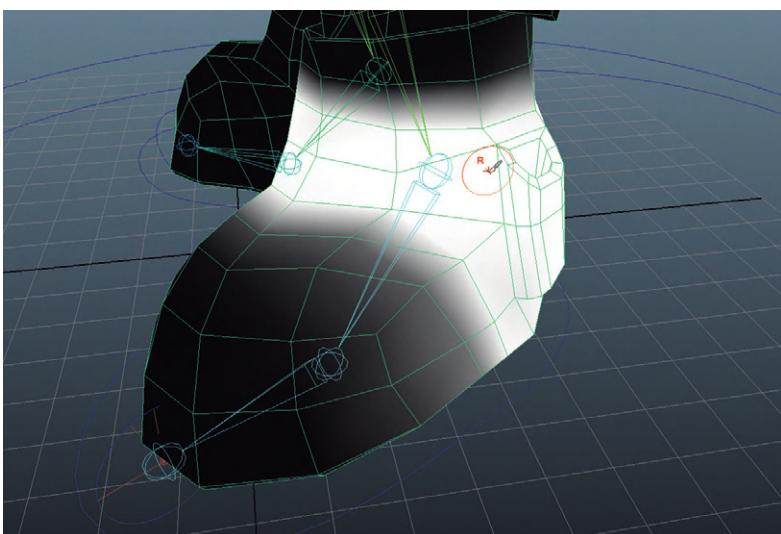

FIG 8.30 Ankle Skin Weights.
Step 11: Paint the skin weights for L_Ankle. Again, swap the Paint Operations back to Replace and paint in the areas the L_Ankle should be controlling (Fig. 8.30).